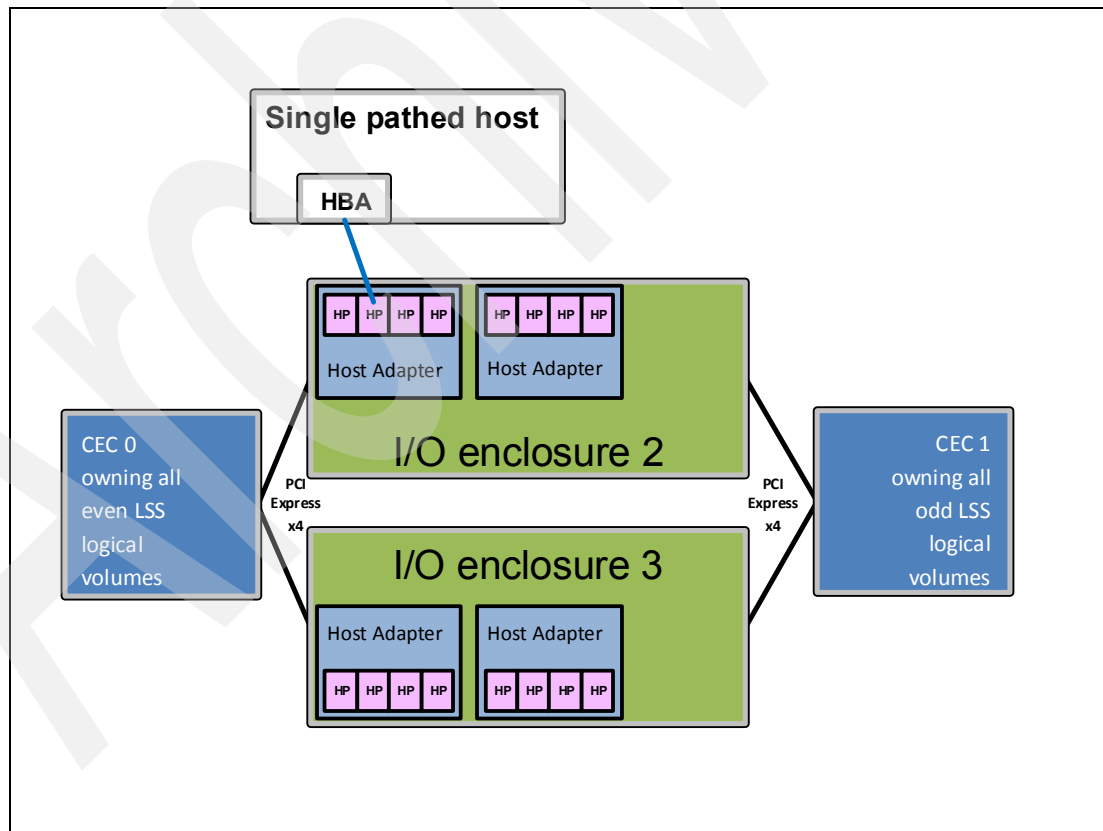

Figure 4-4 A single-path host connection
In DS8700, the host adapters are shared between the CECs. To show this concept, Figure 4-4 shows a potential machine configuration. In this example, two I/O enclosures are shown. Each enclosure has a pair of Fibre Channel host adapters. If a host only has a single path to a DS8700, as shown in Figure 4-4, then it would still be able to access volumes belonging to all LSSs because the host adapter will direct the I/O to the correct CEC. However, if an error were to occur on the host adapter (HA), host port (HP), or I/O enclosure, or in the SAN, then all connectivity would be lost. Clearly, the host bus adapter (HBA) in the attached host is also a single point of failure.